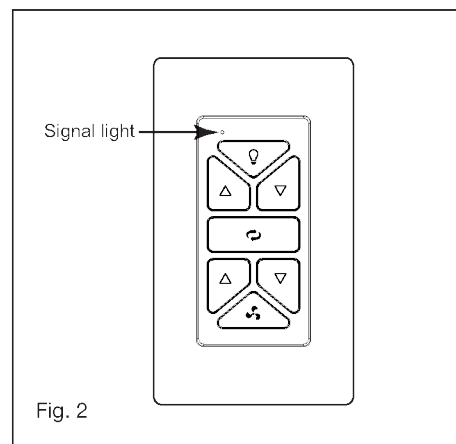

Fig. 2
- 3 Loosen the two security set screws and remove the downrod pin and retaining clip from the coupling on top of the motor assembly. (Fig. 2)
- 1 Locate 9 blade attachment screws. Slide one blade onto the motor as shown in Fig.2, aligning holes in blade with holes on the edge of the motor.
- 2 Seat the cradle A into the wall plate. (Fig. 2)
- 6 Signal light (Fig. 2)